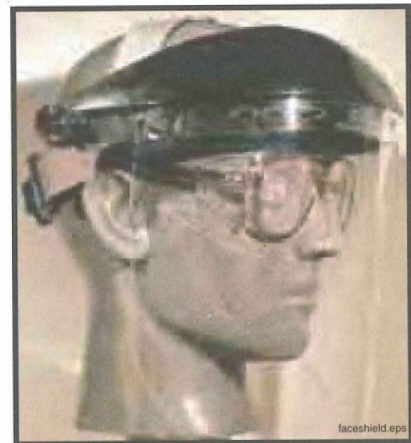

Figure 23
7.2 **⚠ WARNING** The nozzle person and nearby personnel should protect themselves by wearing appropriate safety gear, including a full face shield to prevent rebounding concrete from injuring their face and eyes (Figure 23).